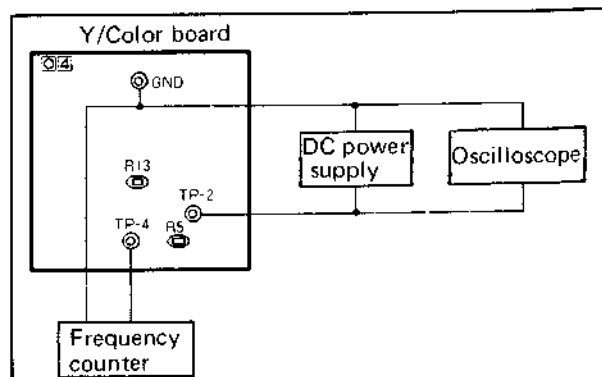

Fig. 5-27 Connection diagram
3. Without an input signal, set for the E-E mode. Connect oscilloscope to TP-2 of the Y & COLOR board to monitor the DC voltage. See connection diagram of Fig. 5-27.